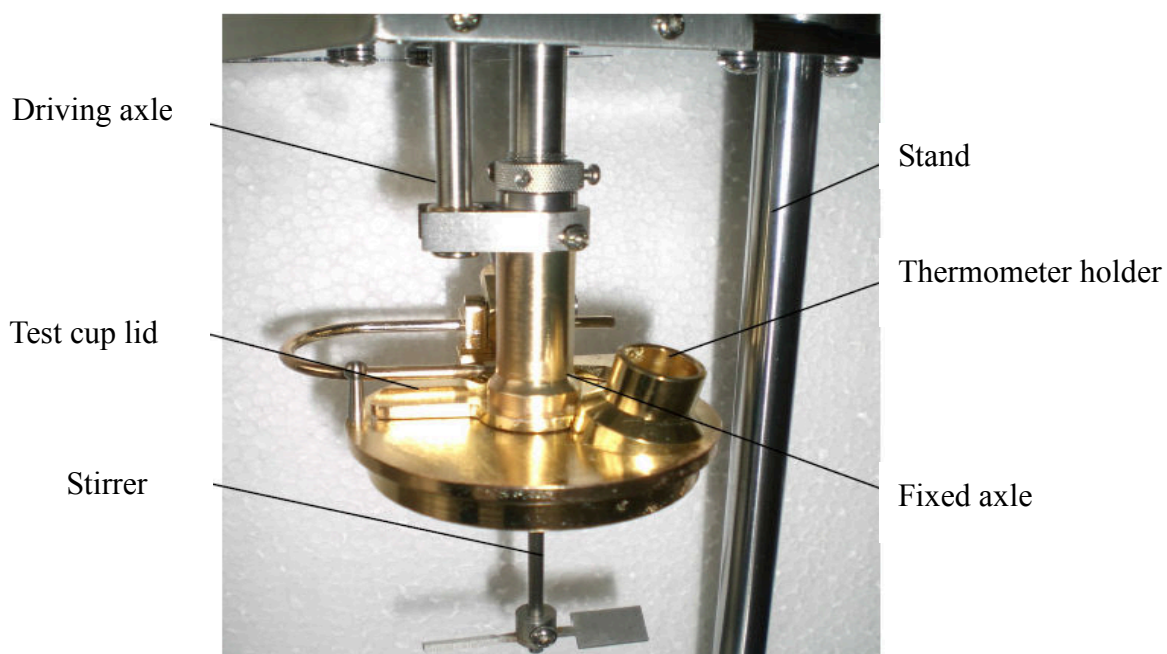

Figure-3 Test device
2.3.2.1 Pull the driving axle by hand to observe the flexibility of the sliding unit (see figure-3).